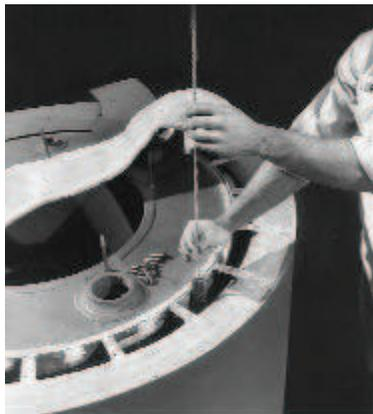

FIGURE 7 - WIRE BRUSHING THE FLUE PASSAGES
- » Wire brush flue passages. See Figure 7.